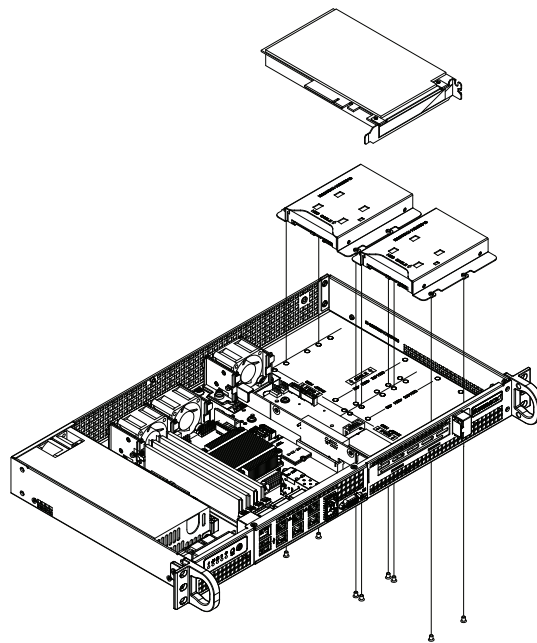
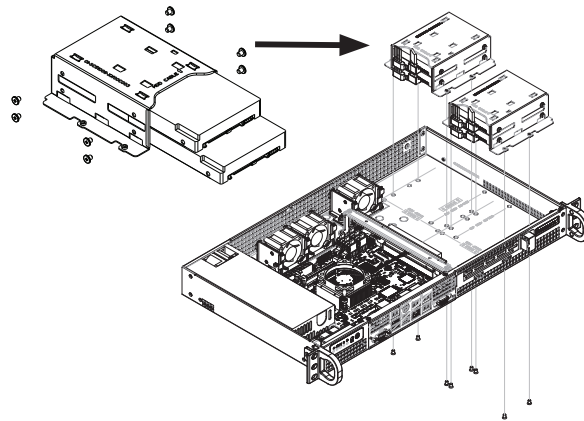

Figure 3-7. Two 3.5" HDDs and One Full-Height, Half-Length Expansion Card
Figure 3-8. Four 2.5" HDDs in Two Brackets, No Expansion Card
2. Place the hard drives and brackets into the chassis as illustrated in Figure 3-7 or Figure 3-8. Orient two or more drives with the cable connections facing the inside of the chassis.